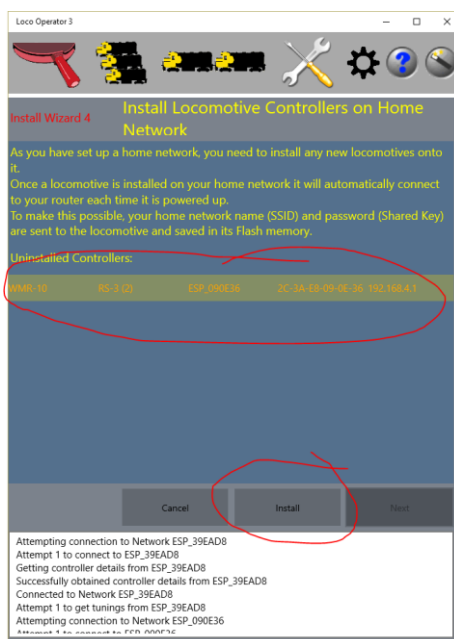

Figure 44 Installing Loco Controllers onto your Home Net
- (5) You now see the Install Wizard 4 screen as Figure 44. When the screen enters, any powered-up, uninstalled WDM-30 modules are discovered. Uninstalled locomotives are those that have not been given the SSID and Password to enable them to connect to your Home Network. Select them one by one and click the Install button. Then click Next.